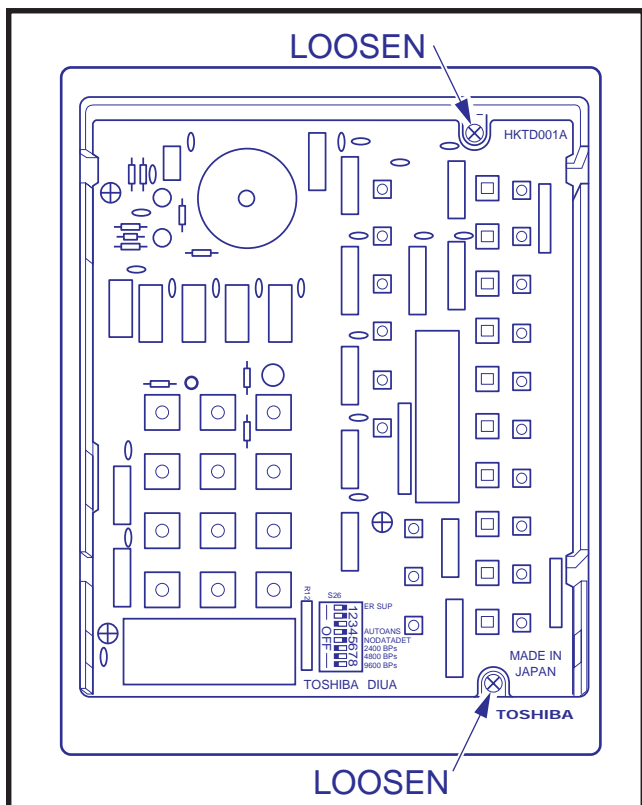

FIGURE 4-40—DDIU-MA DIUA PCB
**5.94** The DDIU-MA's faceplate must be removed to set the internal DIP switches. Remove the faceplate by carefully lifting the lower right corner and then pulling the faceplate away from the base. Set the following parameters as required at switch **S26** on the internal DIUA PCB (Figure 4-40):
- 1) Loosen the two screws found under the DDIU-MA's faceplate on the right side (top and bottom) of the DIUA PCB (Figure 4-40).